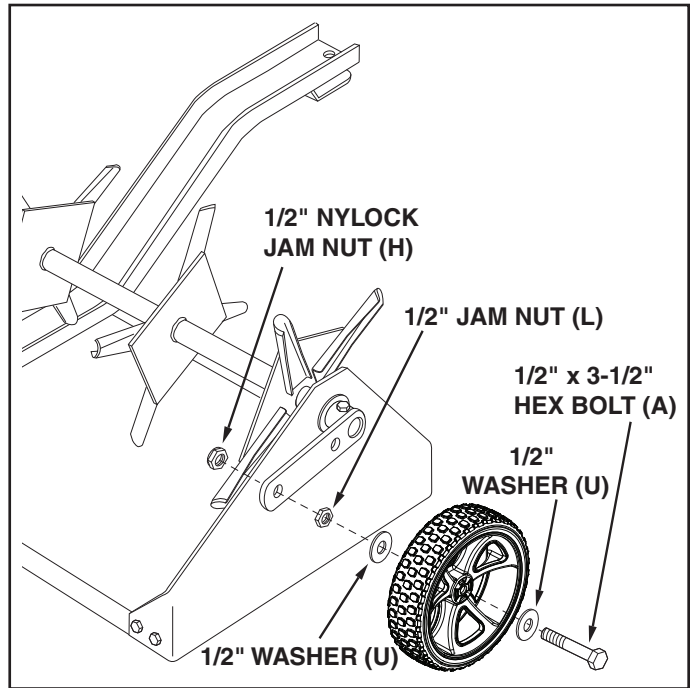

FIGURE 9 UPSIDE DOWN VIEW
13. Assemble a wheel to a wheel bracket as shown in figure 9. Use a 1/2" x 3-1/2" hex bolt (A), two 1/2" washers (U), one 1/2" hex jam nut (L), and one 1/2" nylock jam nut (H). Adjust the nuts so that the wheel is held securely with minimum end play but will spin freely. Repeat on other side. See figure 9.